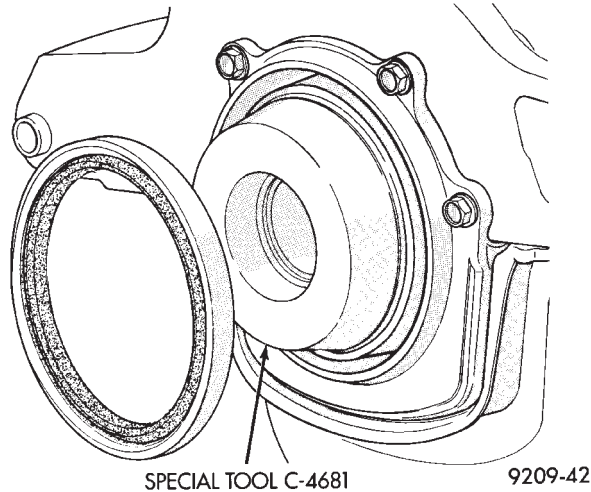

Fig. 3 Installing Rear Crankshaft Oil Seal
- (2) Place Special Tool C-4681 on crankshaft (Fig. 3).
- (3) Lightly coat seal O.D. with Loctite Stud N' Bearing Mount or equivalent.
- (4) Place seal over Tool C-4681 and tap in place with a plastic hammer.